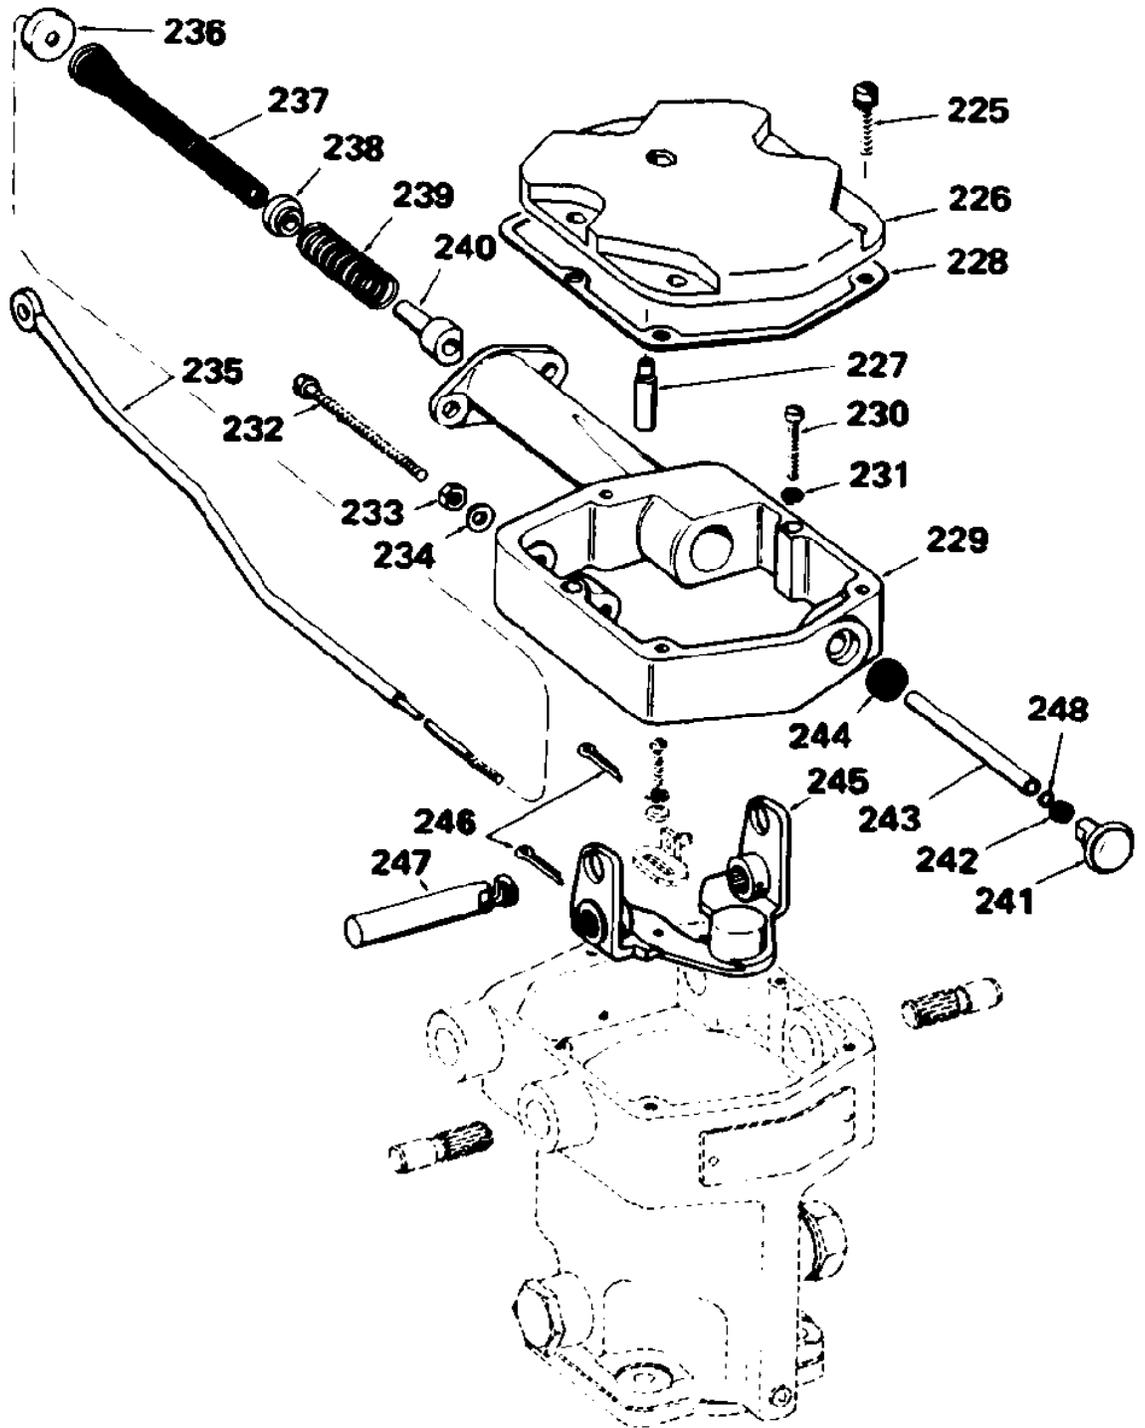

Figure 5-6. Subcap Assembly Parts (linear output)
The parts comprising typical subcap assemblies are shown in Figures 5-6 and 5-7. Except for the subcap assembly, the operation and construction of a governor equipped with a subcap are similar to the conventional governors described in preceding pages.
The output of a governor with the subcap assembly shown in Figure 5-6 is at fuel rod (235) rather than at a terminal shaft. As in other model SG governors, the terminal lever (245) is rotated by the power piston movement as fuel changes are called for by the governor ballhead and pilot valve. The terminal lever pin (247), pushing against fuel rod collar (240), effects the movement of the fuel rod.
Parts List, Figure 5-6